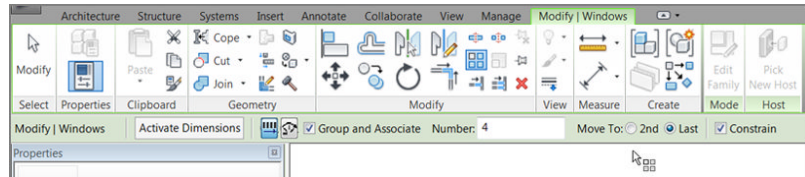

FIGURE 4.21: Choosing the linear array options
12. On the Options bar, select Linear, as shown in Figure 4.21.